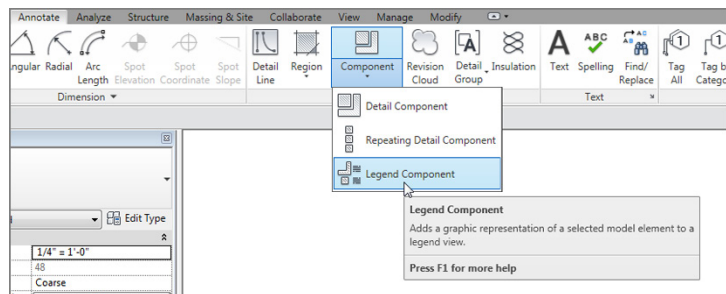

FIGURE 11.41: Clicking the Legend Component button
2. Click the Component ➤ Legend Component button, as shown in Figure 11.41.